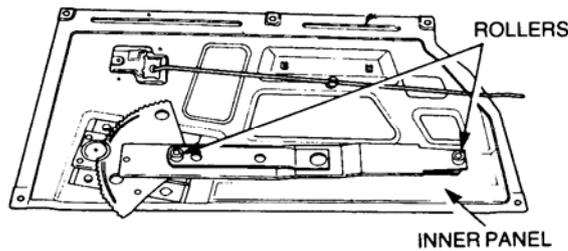

Figure 15 Window Regulator Roller Location
- t. Remove the inner panel from the door (refer Figure 15).